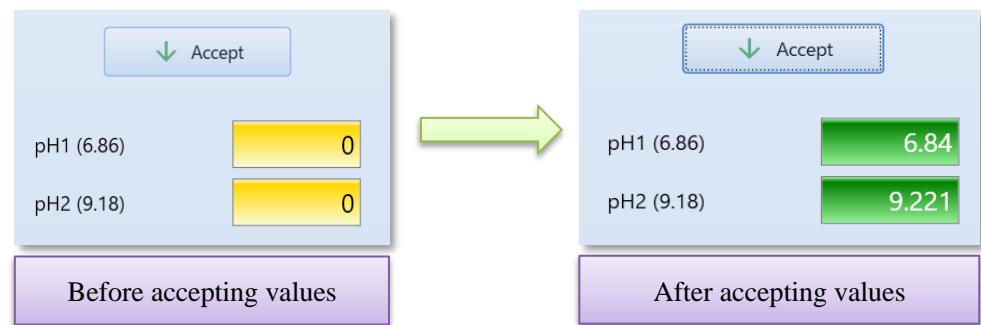

Figure 6.41 Acquire figures to be used for calibration
- (2) Soak the sensor in the chosen “pH standard solution” and confirm values by clicking on [Accept] button when plot values stabilize. (Figure 6.41)